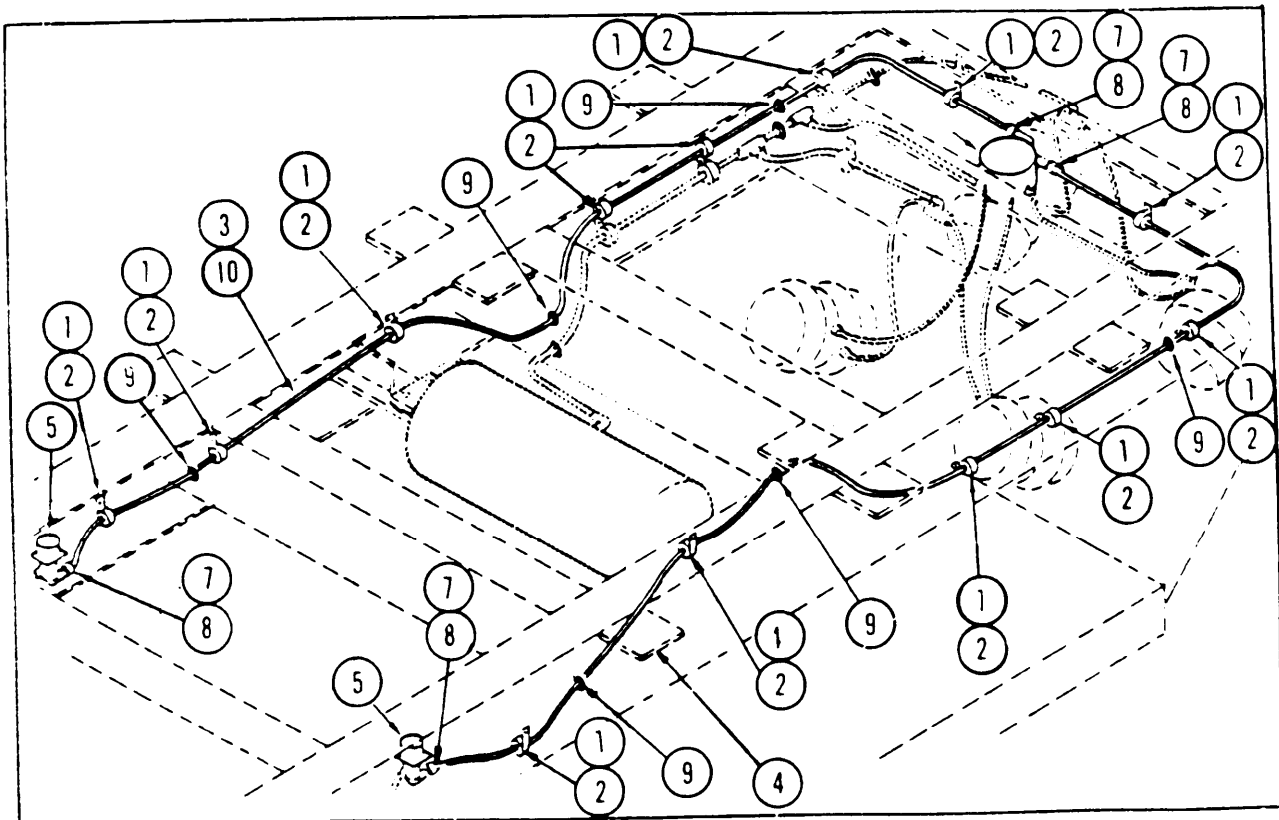
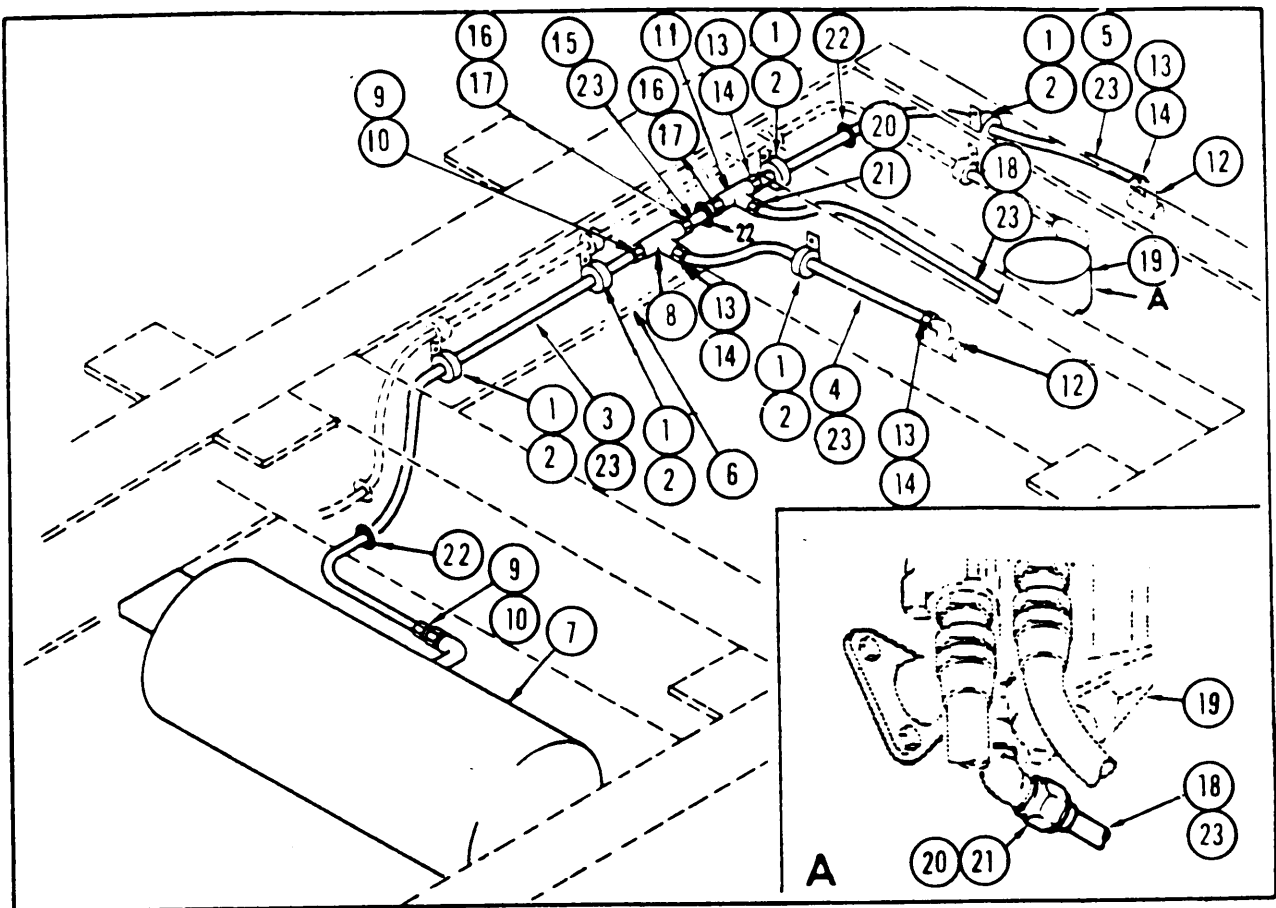

Figure 2-32. Trailer Air Brake Tubing Sections Between Air Cleaner Assemblies and Relay Valve (ARMY)
Figure 2-33. Trailer Air Brake Tubing Sections Between Air Reservoir and Air Chambers Assemblies (ARMY)
(2) To remove the sections of tubing between the air cleaner assemblies and the relay valve (figure 2-32), perform the following:
- (3) To remove reservoir to air chamber assemblies tubing (figure 2-33), perform the following:
- (a) Remove nuts (1) and clamps (2) securing tubing sections (3), (4), and (5) to trailer frame (6).
- (b) Disconnect tubing section (3) from reservoir (7) and tee (8) by removing nuts (9) and sleeves (10).
- (c) Disconnect tubing sections (4) and (5) from tees (8) and (11) and anchor tees (12) by removing nuts (13) and sleeves (14), then remove tubing section (4).
- (d) Disconnect tubing section (15) from tees (8) and (11) by removing nuts (16) and sleeves (17), then remove tee (8).
- (e) Disconnect tubing section (18) from tee (11) and relay valve (19) by removing nuts (20) and sleeves (21), then remove tubing section (18) and tee (11).
- (f) Remove tubing sections (3), (5) and (15) and grommets (22) from trailer frame (6).
- (g) Remove grommets (22) from tubing sections (3), (5), and (15).
- (h) Remove conduit (23) from tubing sections (3), (4), (5), (15), and (18).
- (1) To install reservoir to air chamber assemblies tubing (figure 2-33), perform the following:
- (a) Install conduit (23) on tubing sections (3), (4), (5), (15), and (18).
- (b) Install grommets (22) on tubing sections (3), (5), and (15).
- (c) Position tubing sections (3), (5), and (15) and grommets (22) in trailer frame (6).
- (d) Install tee (11) on tubing section (18) using nut (20) and sleeve (21). Connect opposite end of tubing section (18) to relay valve (19) using nut (20) and sleeve (21).
- (e) Connect tubing section (15) to tee (11) using nut (16) and sleeve (17).
- (f) Install tee (8) on tubing section (15) with nut (16) and sleeve (17).
- (g) position tubing sections (4) and (5) between tees (8) and (11) and anchor tees (12), then connect using nuts (13) and sleeves (14).
- (h) Position tubing section (3) between reservoir (7) and tee (8), then connect using nuts (9) and sleeves (10).
- (i) Install clamps (2) on tubing sections (3), (4) and (5) and secure to trailer frame (6) with nuts (1).
- (2) To install the sections of tubing between the air cleaner assemblies and the relay valve (figure 2-32), perform the following:
- (a) Install conduit (10) on tubing (3), then install grommets (9) on tubing (3).
- (b) Position tubing (3) and grommets (9) in trailer frame (4).
- (c) Connect tubing (3) to air cleaner assemblies (5) and relay valve (6) with nuts (7) and sleeves (8).
- (d) Install clamps (2) on tubing (3) and secure to trailer frame (4) with nuts (1).